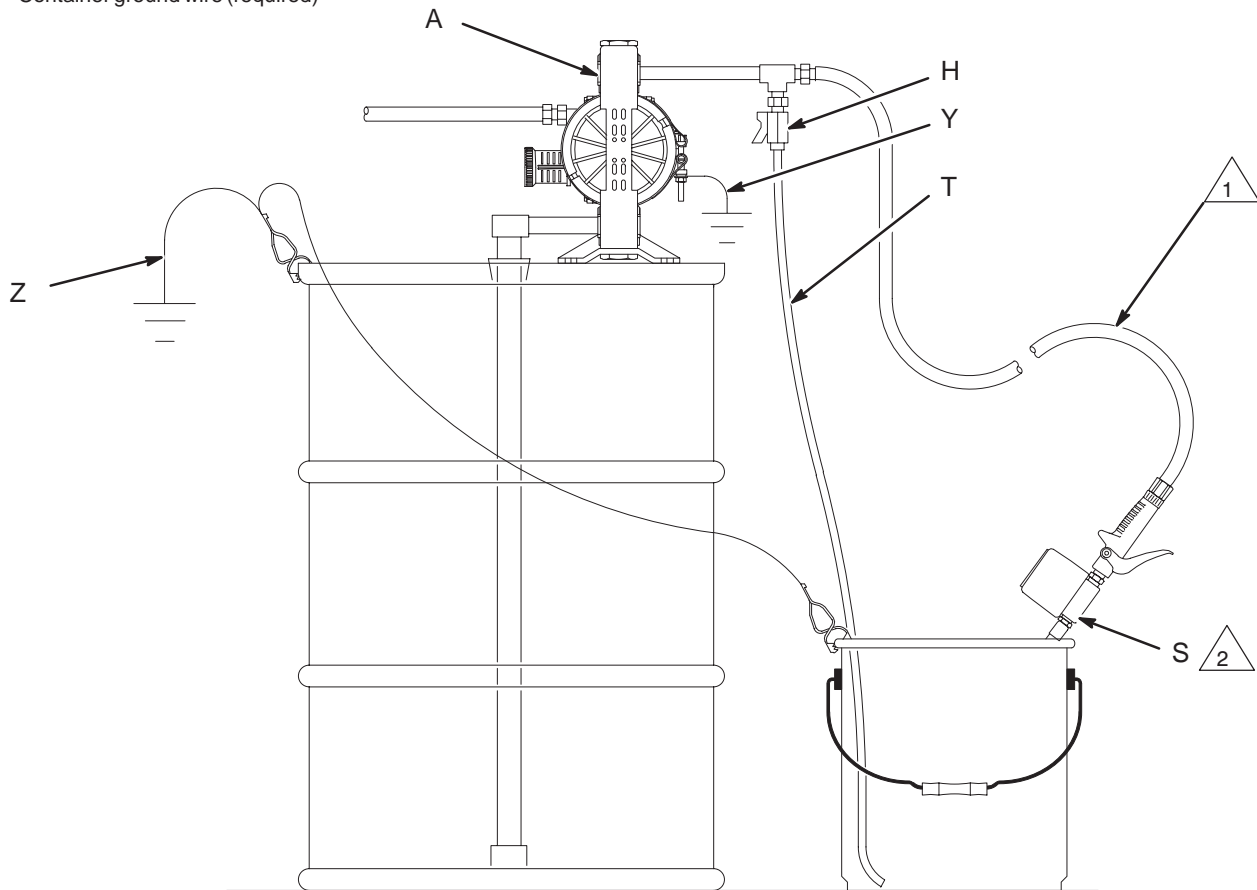

Fig. 2
When pumping conductive flammable fluids, **always** ground the entire fluid system by making sure the fluid system has an electrical path to a true earth ground (see Fig. 2). **Never** use a polypropylene pump with non-conductive flammable fluids as specified by your local fire protection code.
**NOTE:** When pumping conductive flammable fluids with a polypropylene pump, **always** ground the fluid system. See the **WARNING** at left. Fig. 2 shows a recommended method of grounding flammable fluid containers during filling.